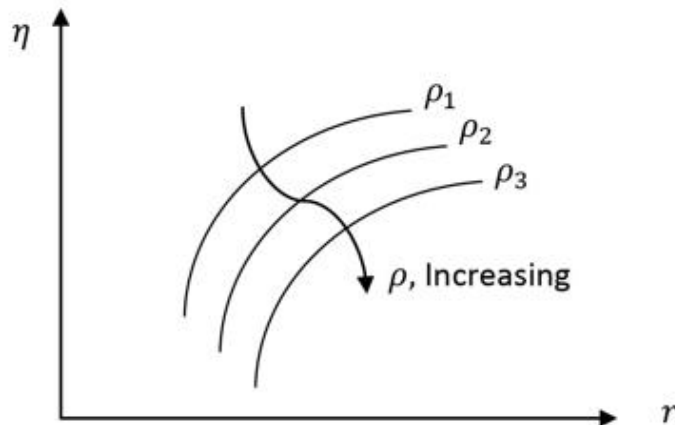

Fig. 7.6 Efficiency of Diesel cycle for various cut-off ratio
- Fig. 7.6 shows the air standard efficiency of diesel cycle for various cut off ratio.